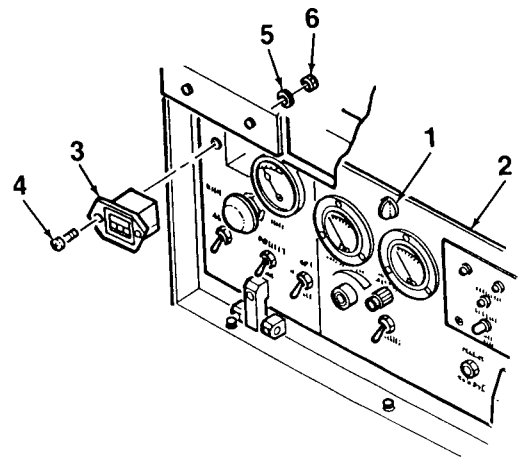

Figure 4-5. HOURS Meter
1. Turn quarter-turn fasteners (1, Figure 4-5) to unlock and open control panel (2).
2. Tag and disconnect electrical wiring from the rear of HOURS meter (3).
3. Remove HOURS meter (3) from control panel (2) by removing two screws (4), lockwashers (5), and nuts (6).
1. Mate HOURS meter (3, Figure 4-5) to control panel (2). Secure using two screws (4), lockwashers (5), and nuts (6).
2. Connect electrical wiring to the rear of HOURS meter (3).
3. Close control panel (2) and lock in place using quarter-turn fasteners (1).